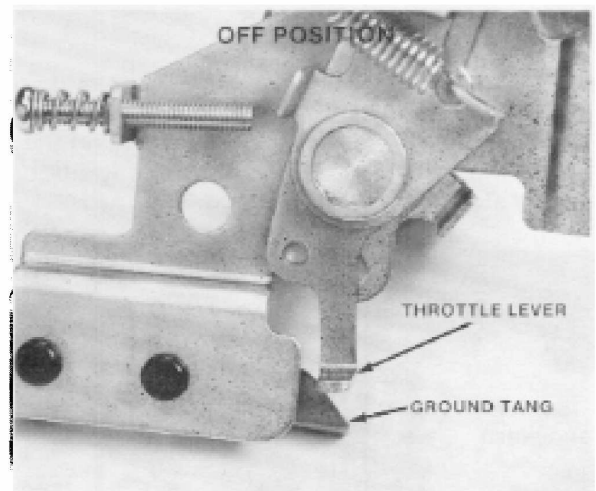

Figure 3-14
3. In the "off" position, the throttle lever should contact the ground tang. This will ground the ignition and stop the engine. See Fig. 3-14.